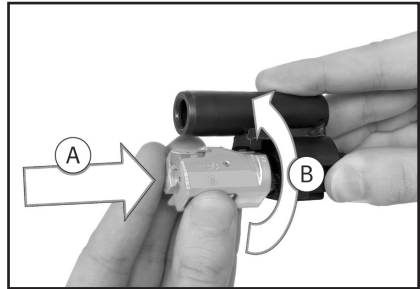

Fig. 47 – Insert bolt head
5. Place bolt head with extractor upwards Ⓐ onto locking piece (Fig. 47).
6. Turn bolt head counter-clockwise Ⓑ until the connecting piece audibly and tangibly snaps into place (Fig. 47).